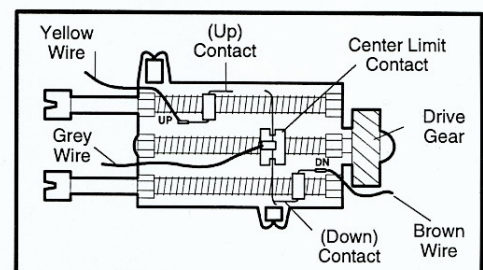

Figure 2
9. Position the new limit switch in front of you as shown in Figure 2. The drive gear controls the movement of the center limit contact to the left (UP) or right (DOWN). Rotate the gear until the center limit contact touches the DOWN contact.